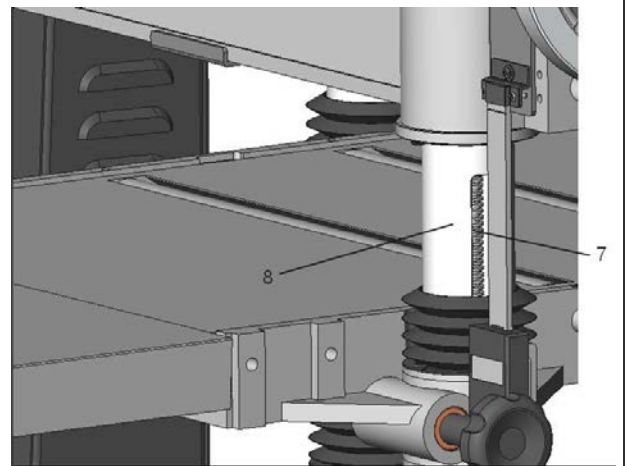

Fig. 29
- Worm Gear is used to adjust the table up or down. (Fig. 29)